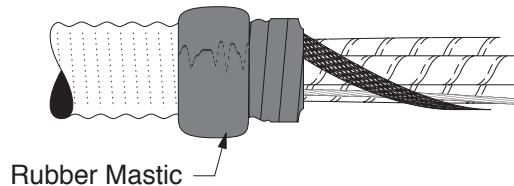

Figure 22
3.1 Apply one roll of slightly stretched 2" wide rubber mastic around each cable jacket/armor end, tacky side toward cable jacket. Stretch and tear off the end of the rubber mastic as shown in (*Figure 22*). Do not half-lap the rubber mastic.